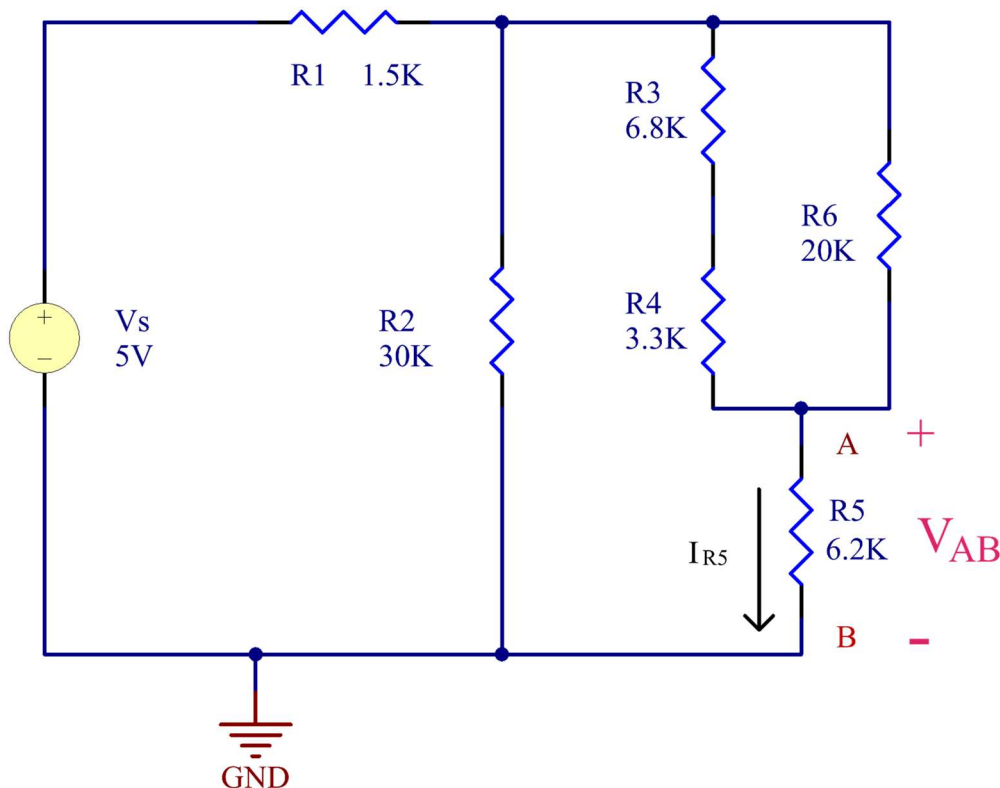

Figure 1: Not So Simple resistor circuit.
b) Build the circuit shown in Figure 1.